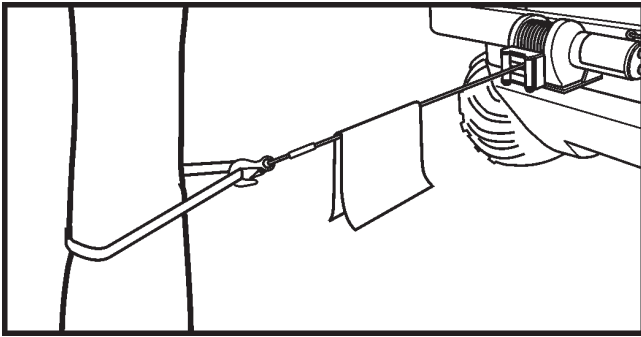

Figure 11-17. Using a cloth damper.
9. It is a good idea to lay a heavy blanket or jacket over the wire rope near the hook end when pulling heavy loads (Figure 11-17). If a wire rope failure should occur, the cloth will act as a damper and help prevent the rope from whipping.